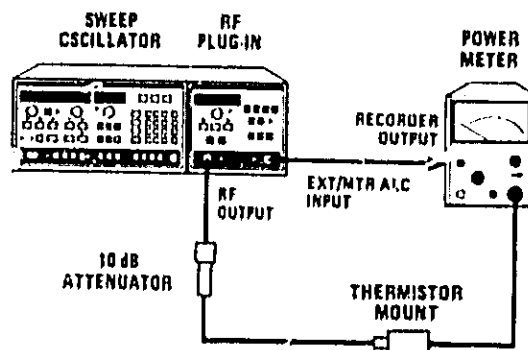

Figure 5-23. Power Meter Leveling Calibration
1. Connect equipment as shown in Figure 5-23. Ensure 8350A  MOD is off. F. is CW and select a frequency at midband.